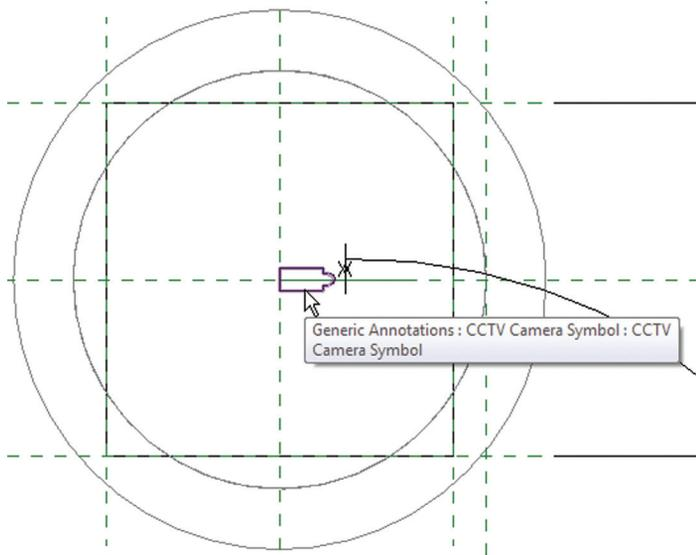

Figure 2: Select the Annotation Family
3. Select the nested annotation family placed in the view (see Figure 2).